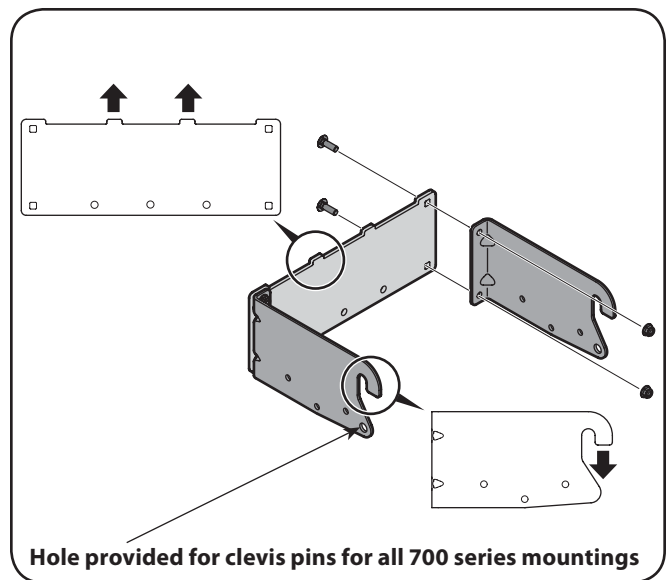

Figure 3-3
1. Attach the two hitch side brackets to the universal rear attachment bracket using four hex bolts and flange lock nuts. With the hooks on the hitch side brackets pointing down, the tabs on the universal rear attachment bracket should be pointing upwards. See Fig. 3-3.
Note: Install the two included clevis pins through the mounting assembly and secure to the 700 series mounting brackets installed earlier with click pins provided in the hardware pack. Refer back to Fig. 3-3.